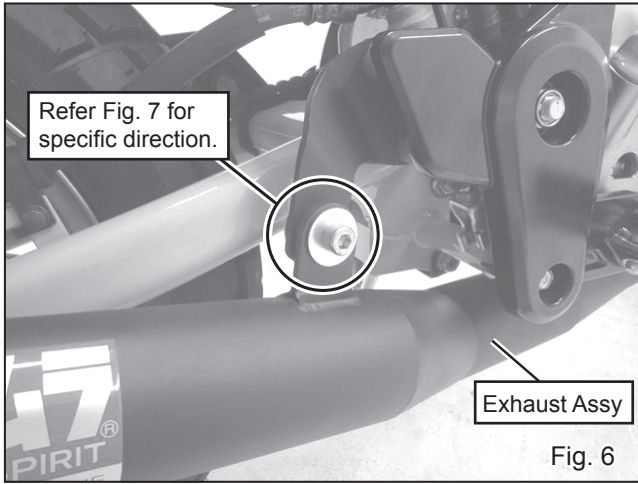

Fig. 6
- 6) Mount Exhaust Assy on Exhaust Bracket with 2 of each Cap Bolt M8x30, Washer M8x26 and Flange Nut M8. Tighten Cap Bolts by hand only at this stage. (See. Fig. 6 & 7 on next page)